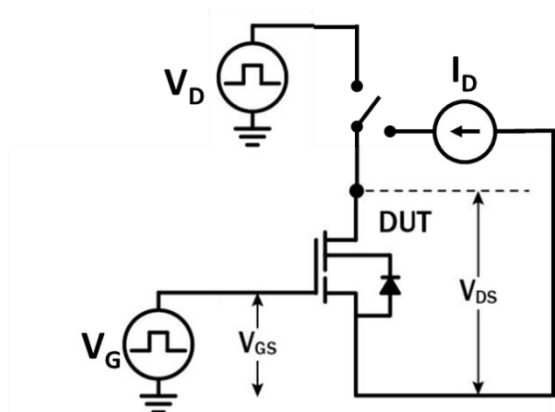

Figure 18. Dynamic $R_{DS(on)eff}$ Test Circuit
g. Dynamic $R_{DS(on)}$, 100% tested; see Figures 18 and 19 for test circuit and conditions